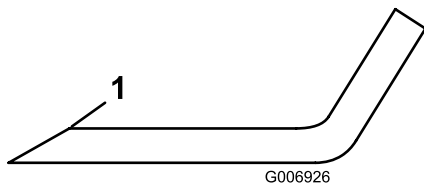

Figure 67
3. Inspect the cutting edges of all blades. Sharpen the cutting edges if they are dull or nicked. Sharpen only the top of the cutting edge and maintain the original cutting angle to ensure sharpness (Figure 67). The blade will remain balanced if the same amount of metal is removed from both cutting edges.